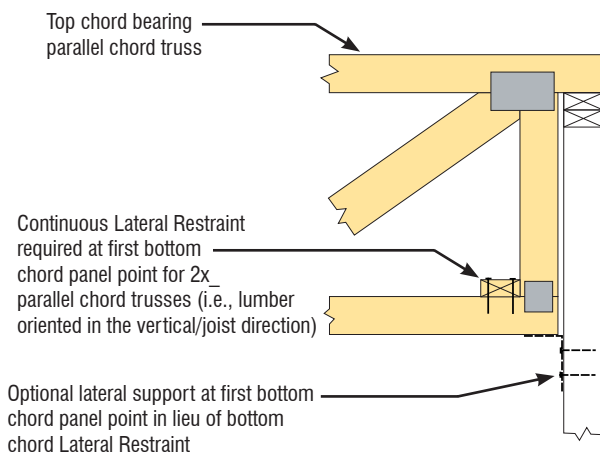

FIGURE B2-57
- ✓ For top chord bearing, 2x\_ parallel chord trusses, apply Continuous Lateral Restraint at the first bottom chord panel point to prevent torsional overturning under load (see Figure B2-57). Consult the TDD for trusses with lumber oriented in the 3x\_ or 4x\_ (i.e., horizontal, flat or plank) direction.